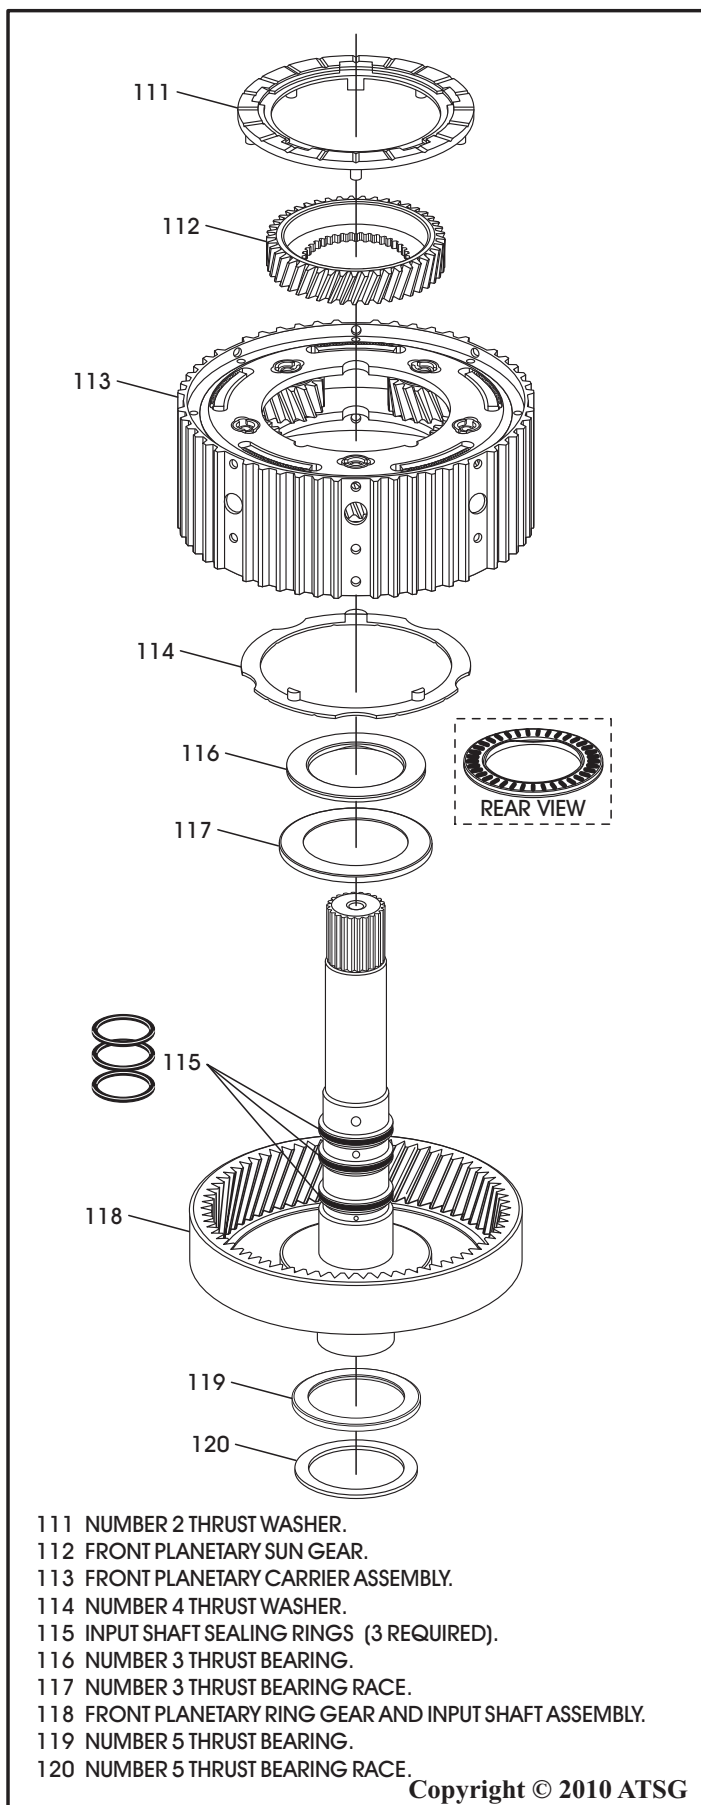

Figure 73
47. Separate and inspect front planetary components, as shown in Figure 73.